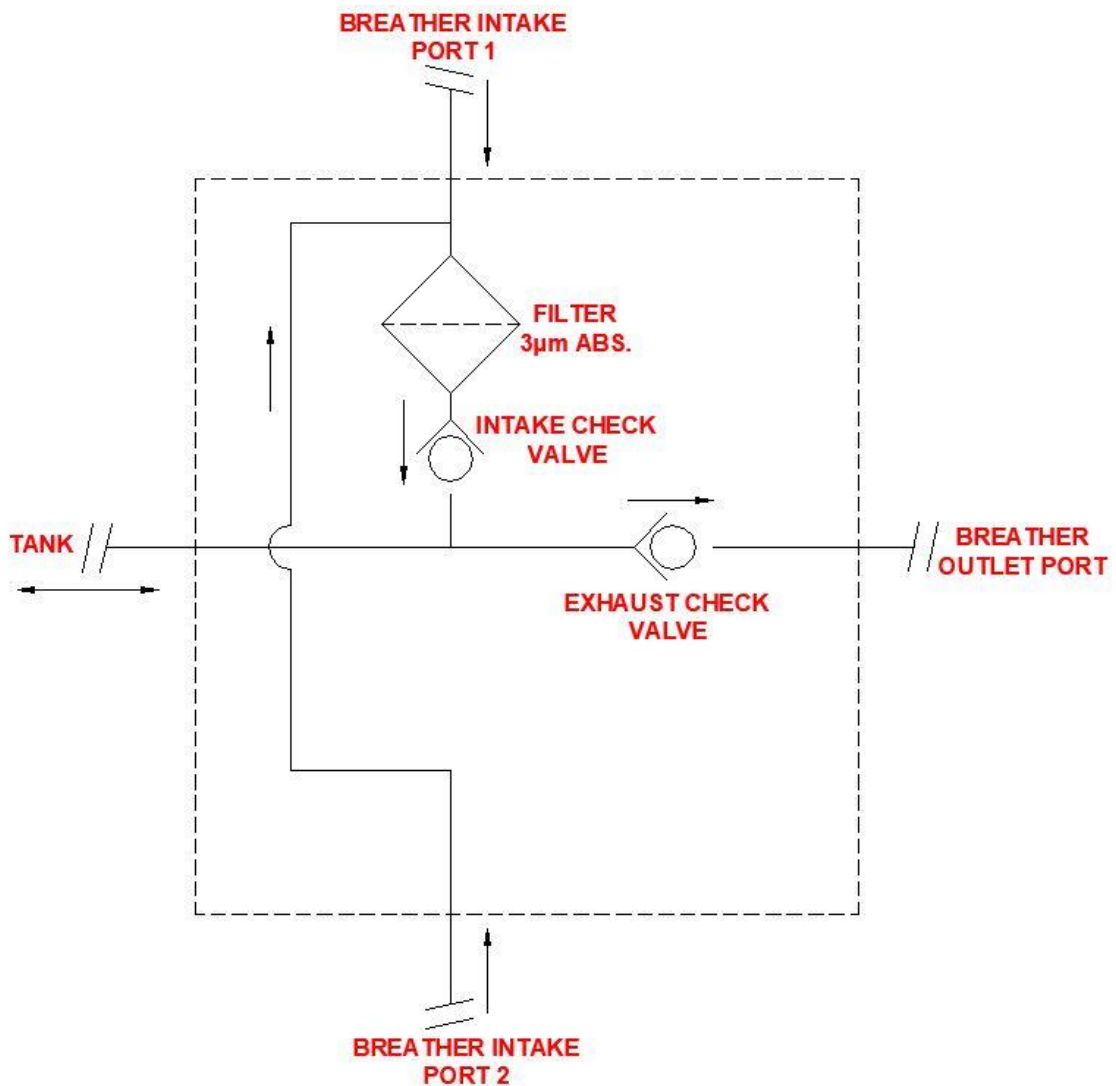
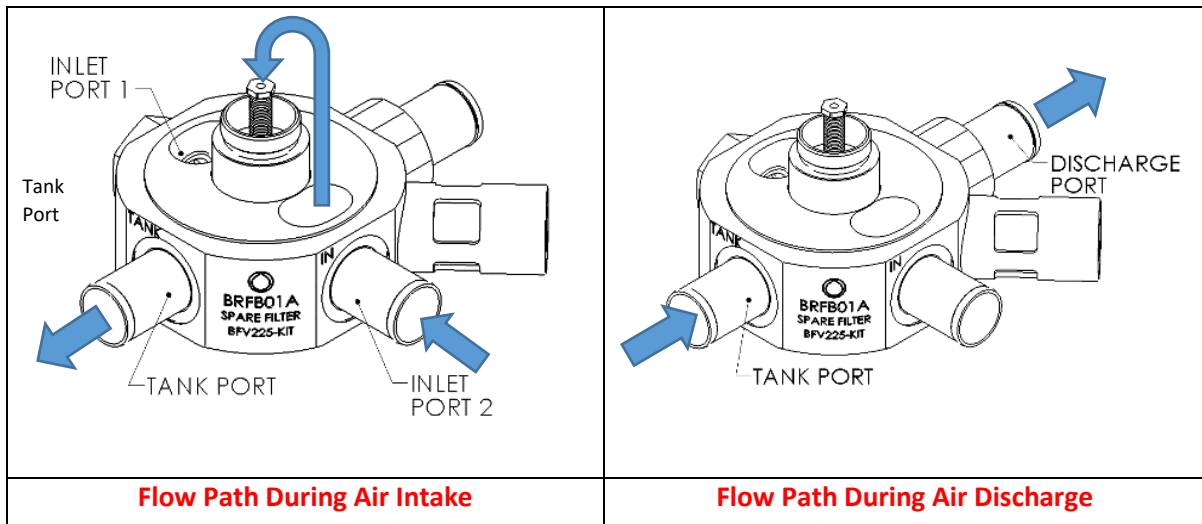

Figure 3 - Basic Flow Schematic of Breather
Figure 4 - Internal Flow Paths of the Breather
Figure 3 and Figure 4 illustrate the flow paths through the BRFB01A Breather.
- The Remote filtered breather should be installed in a “high spot” or in such an orientation that any condensate (fuel or atmospheric) collected within the vent hoses will be bled through the internal check valves or away from the Breather. The inlet should be orientated such that any collected condensate within the Filter cartridge can drain through the Internal Inlet Port. Refer to Figure 4 and Figure 9.